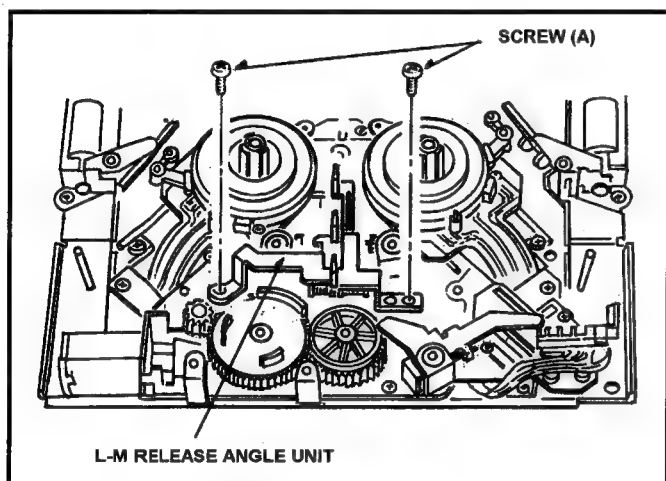

Fig.6-21-1 Removal of L-M Release Angle Unit
3. Unscrew the 2 screws (A) and remove the L-M Release Angle Unit as shown in Figure 6-21-1.